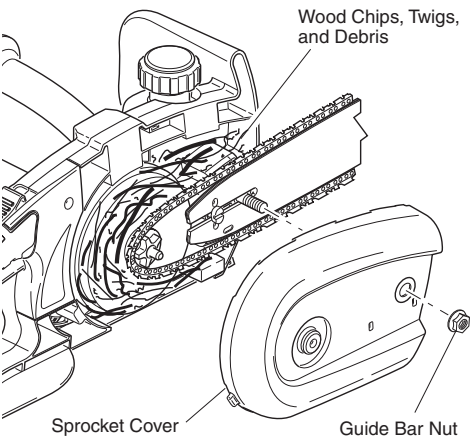

Figure 10 - Removing and Clearing Sprocket Cover of Debris
- 2. Loosen and remove guide bar nut (see Figure 10).